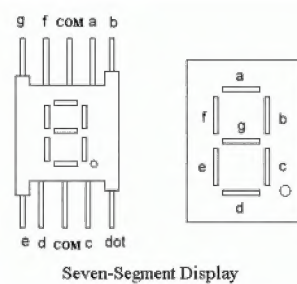

Figure 3: Source [3]
Figure 3 below shows the physical form of the seven segment display.
From both Figures 3 and 4 above it can be clearly seen that in order to display the L (0) character, segment F, E, and D need to get a logic 0 to make them lit and the rest of the segments to get logic 1 in order to get an off status, however to display the character H (1) segment A, D, and the dot should get a logic 1 (H) to put them in off status and the other segment should get a logic 0 (L) in order to light up as shown in table 2 above. From Table 2: Above the *driver/decoder* can be designed as follow, Or as summary it can be re-written as follows,